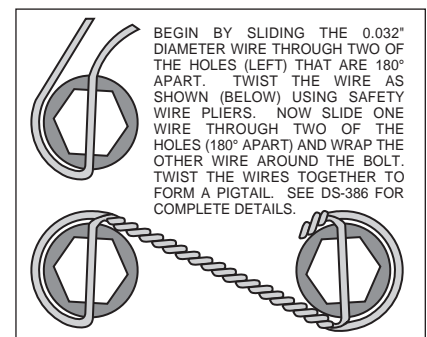

Figure 5. Safety Wire Diagram
- Slide the bracket kit assembly (1) onto the housing flange and then insert the axle assembly through the center hole of the bracket kit assembly (1). Align the bearing retainer (2) with the four holes inside the bracket assembly (1) and secure using the stock Original Equipment Manufacturer (OEM) bolts and nuts. Stock OEM hex nuts that retain the bracket kit assembly (1) and retainer (2) should be on the wheel side of the bracket. Apply red *Loctite*® 271 to the stock OEM bolt threads and torque to OEM specifications. Make sure the bracket kit assembly (1) brake pads are FACING OUTWARD TOWARDS THE WHEEL.
- With the larger I.D. side of the rotor (4) facing away from the hat (3), bolt rotor (4) to hat (3) through the backside of the rotor using washers (5) and bolts (6). Using an alternating sequence, apply red *Loctite*® 271 to the threads and torque bolts to 155 **in-lb**. For an added measure of security, the bolts may be safety wired using standard 0.032 inch diameter stainless steel safety wire as shown in Figure 5. Please refer to Wilwood's data sheet DS-386 (available at www.wilwood.com/Pdf/DataSheets/ds386.pdf) for complete safety wire installation instructions.
- Slide the rotor registration adapter (18) onto the axle register on the axle flange with the smaller O.D. facing toward the rotor/hat (3). Align the correct hole pattern in the hat with the stud pattern on the axle flange. **NOTE:** Some OEM and aftermarket axles come with stud sizes larger than 0.50" diameter. Verify stud size and have a qualified machine shop drill the hats to the correct size, if necessary. Slide the hat/rotor assembly (3 and 4) over the wheel studs covering the bracket kit assembly (1) and against the axle flange face. Check to be sure the hat seats squarely against the hub. Install a couple of lug nuts (finger tighten) to keep the rotor/hat assembly in place while continuing with the installation.